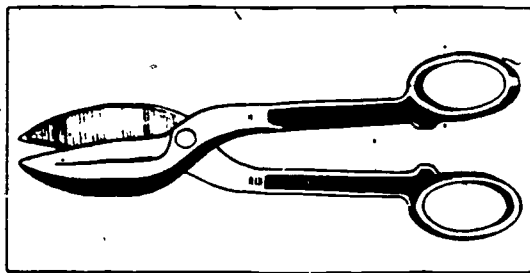

Figure 3-8 Cutting shears
**Shears.** Shears, or tin snips as they are sometimes called, are illustrated in figure 3-8, they are useful in cutting lightweight sheet metal, gasket stock, and other materials that are easily cut by shearing action. They should never be used to cut wire or rod stock, because this use will probably damage the cutting edge of the blade. Ordinary shears are usually issued in 6- and 12-